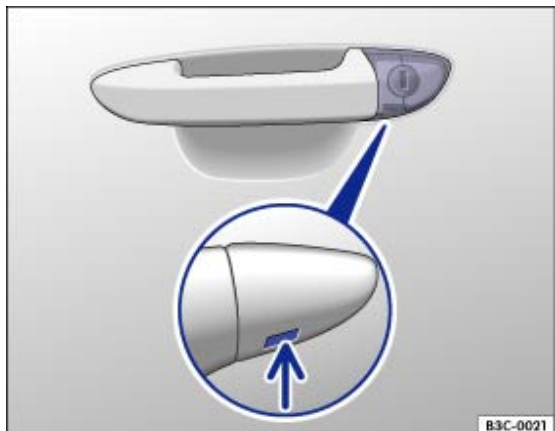

Fig. 213 Door handle on driver's door: covered lock cylinder
- Insert the spare key into the opening for the cover on the driver door handle → Fig. 213 (arrow) from below. Lift up the cover.